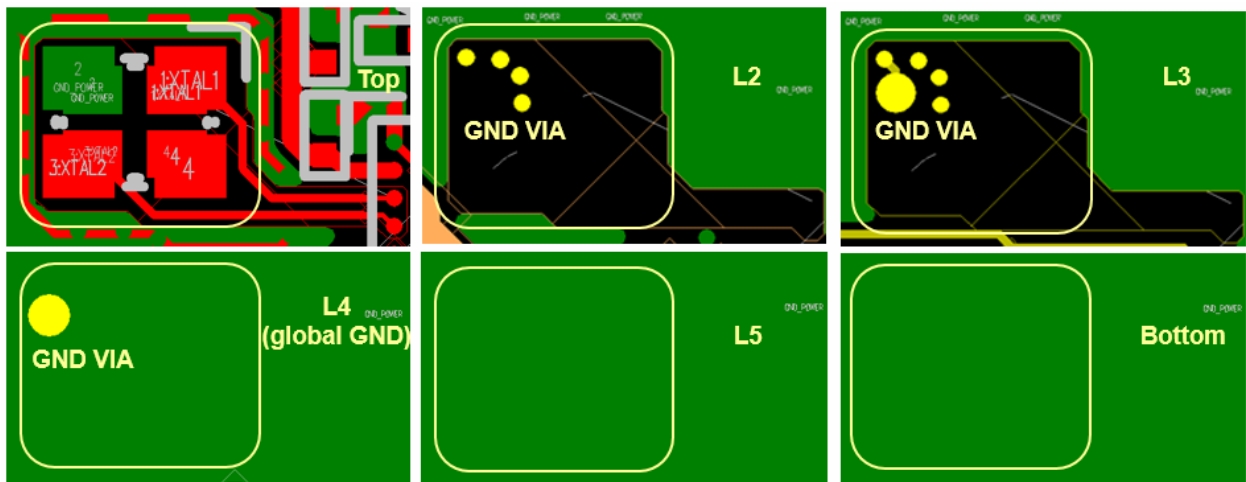

Figure 6. Crystal 26M of the AB1585/AB1588 EVK daughter board
- The crystal and its trace directly refer to the global ground, please refer to Figure 6 (Keep out L1&L2&L3 ground).